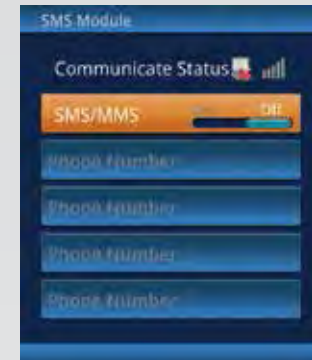

Fig 7.06-1
- f) When the “SMS/MMS” graphical switch is in the “On” position, the ▲ or ▼ keys can be used to highlight any of the Mobile ID# menu options. Select one and touch **OK** to access the menu option. (Fig 7.06-1)